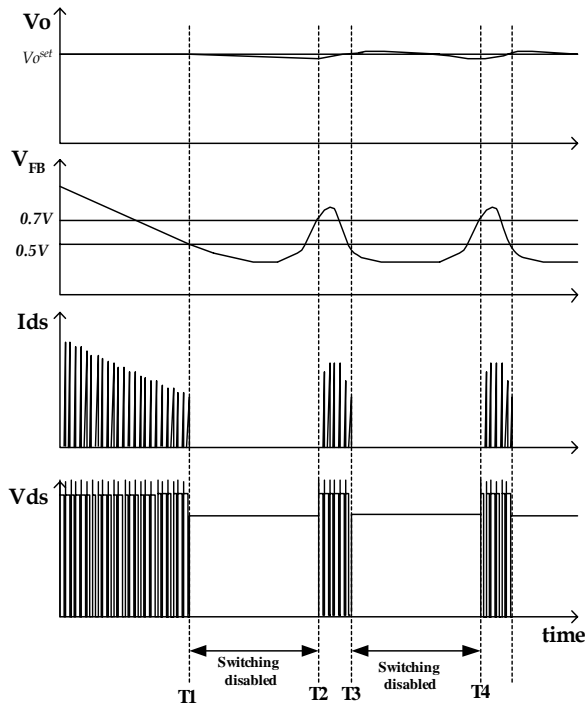

Figure 8. Waveforms of burst operation
**5. Burst operation :** In order to minimize power dissipation in standby mode, the FSDM0565RB enters burst mode operation. As the load decreases, the feedback voltage decreases. As shown in Figure 8, the device automatically enters burst mode when the feedback voltage drops below  $V_{FB(L)}$ (500mV). At this point switching stops and the output voltages start to drop at a rate dependent on standby current load. This causes the feedback voltage to rise. Once it passes  $V_{FB(H)}$ (700mV) switching resumes. The feedback voltage then falls and the process repeats. Burst mode operation alternately enables and disables switching of the power Sense FET thereby reducing switching loss in Standby mode.